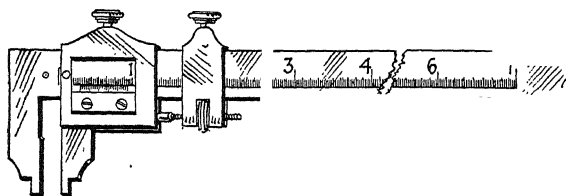

FIG. 263.
**The Vernier Caliper (Fig. 263), Depth Gauge, Height Gauge, and Gear-tooth Vernier**